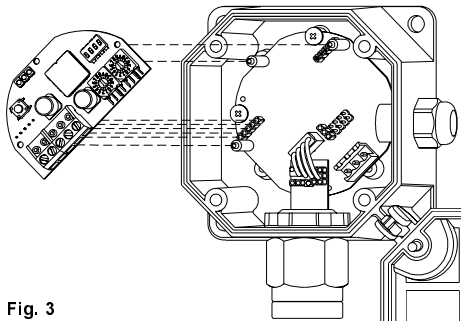
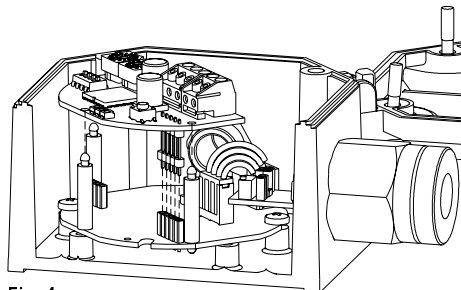

Fig. 3
Fig. 4
4. Insert the S-Bus interface in the transmitter as shown in Fig. 3, taking care that the three turrets, previously inserted in the transmitter, correspond to the holes on the interface board and that the interface pin strip corresponds to the connector on the basic transmitter board, as shown in Fig. 4.